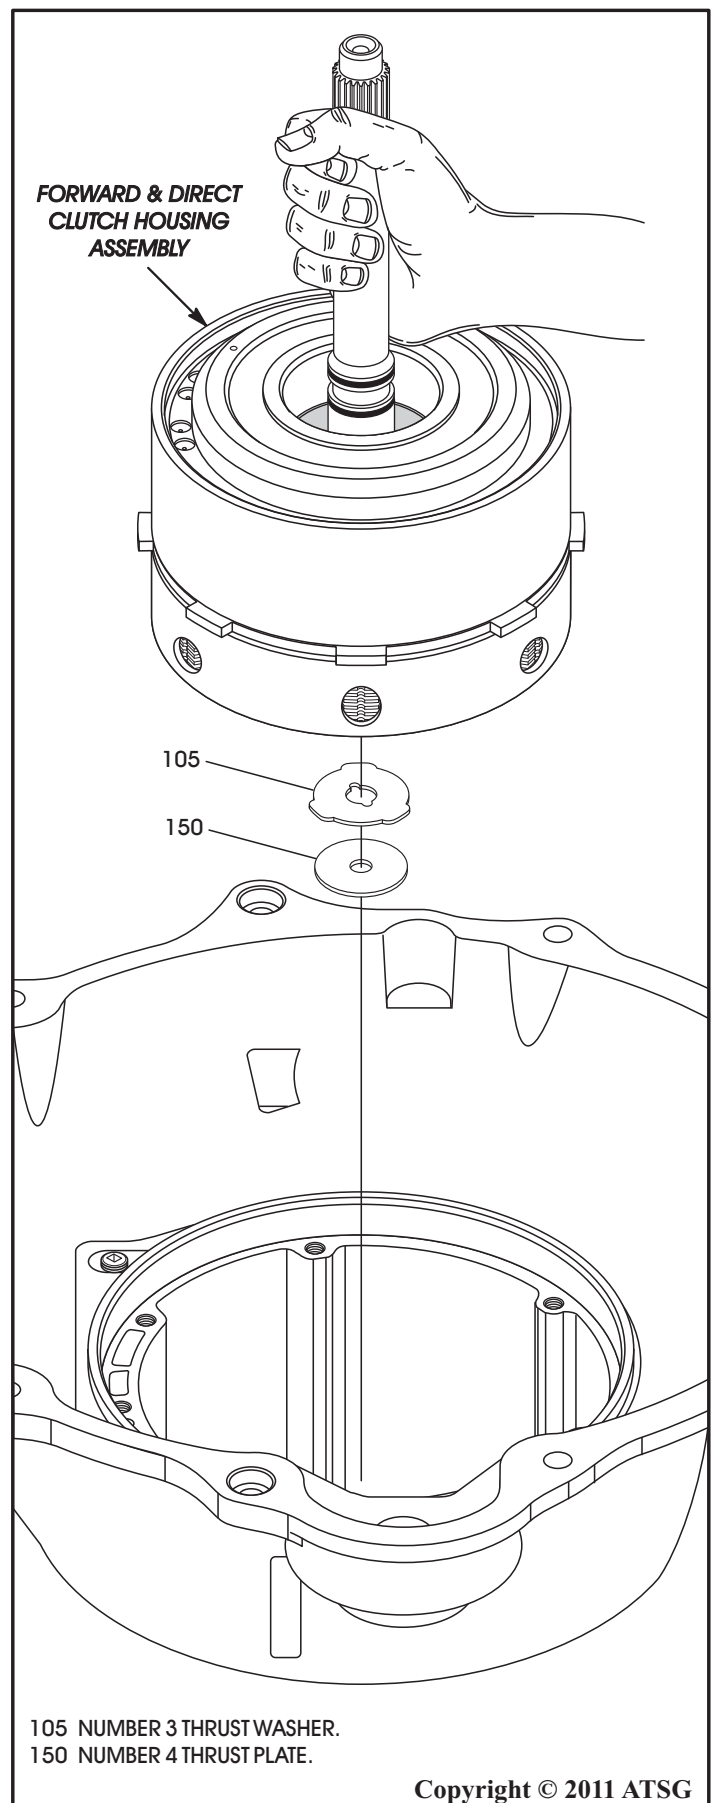

Figure 79
42. Remove the forward and direct clutch housings as an assembly, as shown in Figure 79.
43. Remove the number 3 thrust washer and thrust plate, as shown in Figure 79.